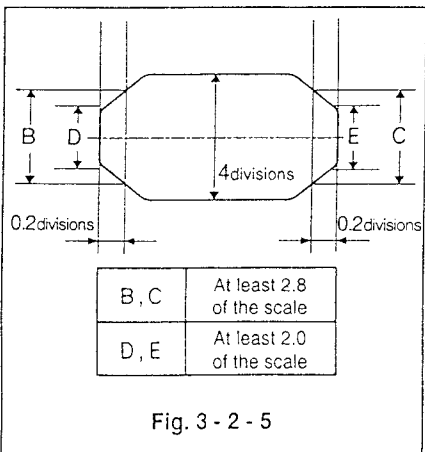

Fig. 3-2-5
- ② In the manual tracking mode, change tracking and make sure the amplitude is changeable while the FM signal remains flat.
- ③ Adjust tracking so that the amplitude of the FM waveform is maximum. Set the oscilloscope so the amplitude of the FM waveform is 5 division.
- ④ Adjust tracking so that the peak value of the FM waveform is 4 divisions. Check if the FM waveform B, C, D, and E are within the specified values shown in Fig. 3-2-5.
- ⑤ If the waveform is not within the specified value, repeat the procedure for checking and adjustment of FM envelope in Item 3-2 from the beginning.